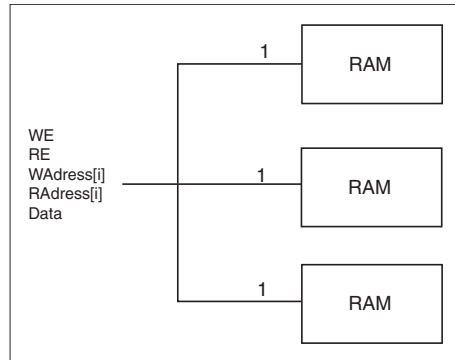
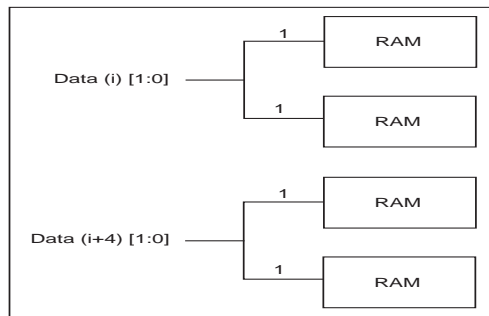

Figure 14-2. Manual Buffering (96x8 RAM Configuration)
Figure 14-3. Manual Buffering for the Data Bus (128x8 RAM Configuration)
Figure 14-2 shows how manual buffering is done. A fan-in of one (1) is enforced on all signals fanning out to more than one RAM cell. If these signals were broadcast to all RAM cells, very slow routing resources (long freeways) would be required to route the signals impacting the RAM performance.
Use Manual Buffering only if the expected performance is not realized using the automatic buffering scheme, or if you know ahead of time that you need to use this scheme to meet your timing goals. In this architecture, the idea is not to buffer the signals internally but rather give some kind of access to the RAM core internal signals. Then, you must buffer the signals outside the core and either use traditional buffers or duplicate the logic that drives these signals externally. If you choose manual buffering, the *WE*, *RE*, *Waddress(i)*, *RAddress(i)*, and *Data[i]* signals become busses external to the core. For all these signals, the bus width is equal to the number of RAM cells (used to build a given configuration) driven by each signal. Figure 14-2 illustrates the manual buffering architecture for a 96x8 RAM configuration, built of three 32x8 configured RAM cells. In this configuration, the *WE*, *RE*, *WAddress* and *RAddress* signals drive all RAM cells simultaneously. Figure 14-3 shows a 128x8